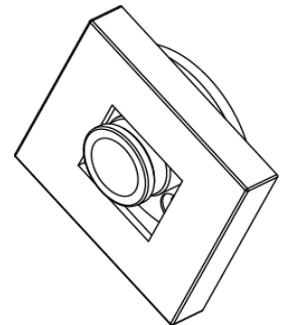

Fig.5
7. Hang the wall bracket covers onto the wall brackets (see Fig. 5).